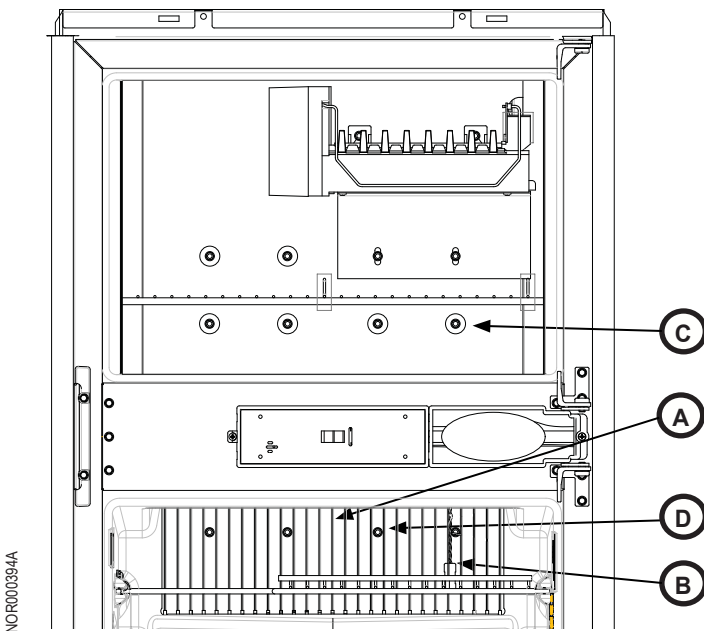

Fig. 2 - Evaporator Plate / Fins
2. From the inside of the freezer, remove the screws and washers (8x) (Fig.2,C) that attach the cooling system to the back of the freezer. Lay aside.
3. From the inside of the fresh food compartment, remove the screws (4x) (Fig.2,D) that attach the fins to the cooling system. Pull the fins toward you and up to remove. Mark top of fins to reinstall correctly later. Lay fins aside.